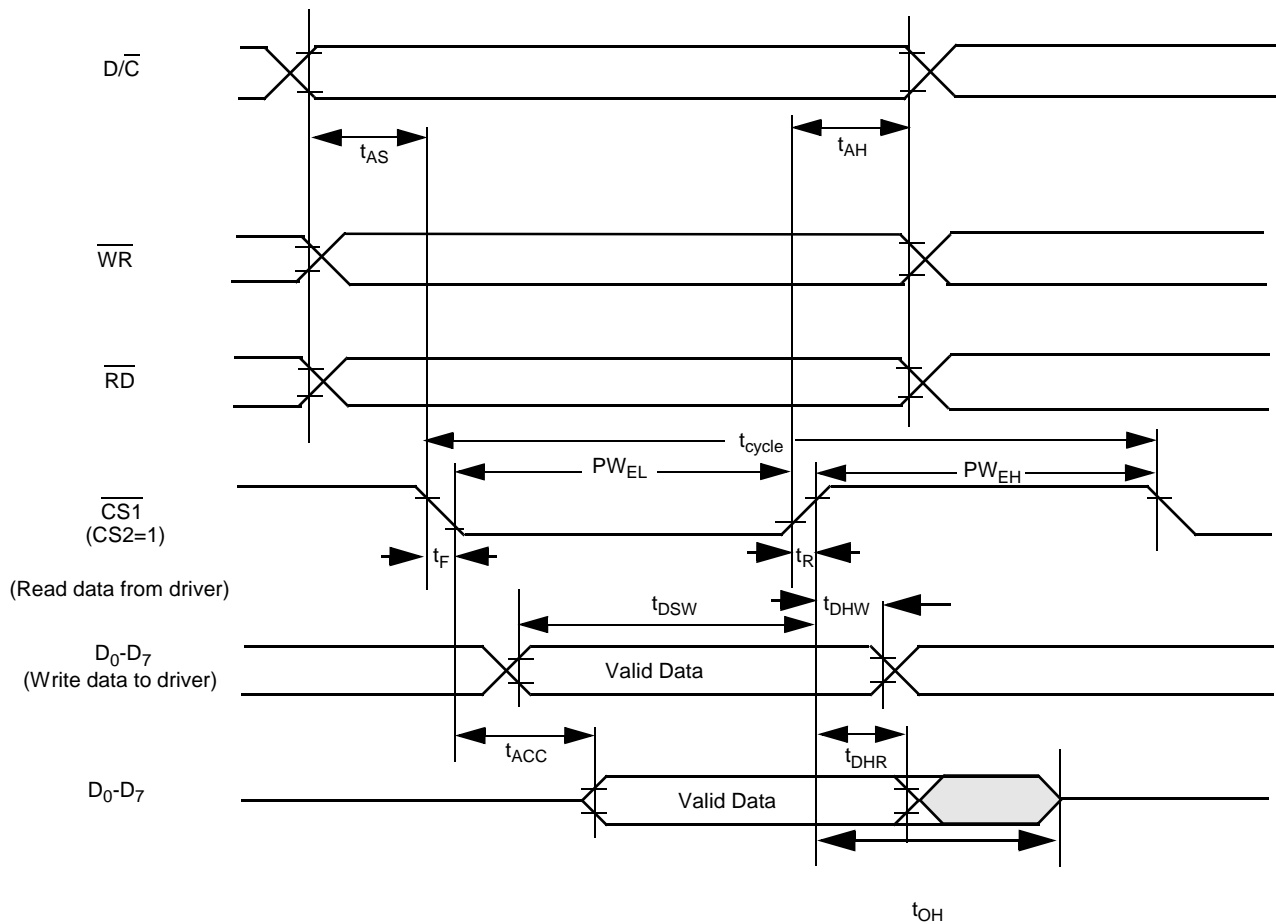

Figure 2. Parallel 8080-series Interface Timing Characteristics
The parallel interface consists of 8 bi-directional data pins (D₀-D₇), E(RD), R/W(WR), D/C, CS1 and CS2. E(RD) input serves as data read latch signal (clock) when low provided that CS1 and CS2 are low and high respectively. Whether it is display data or status register read is controlled by D/C. R/W(WR) input serves as data write latch signal(clock) when high provided that CS1 and CS2 are low and high respectively. Whether it is display data or command register write is controlled by D/C. Refer to Figure 2 of parallel timing characteristics for Parallel Interface Timing Diagram of 8080-series microprocessor.